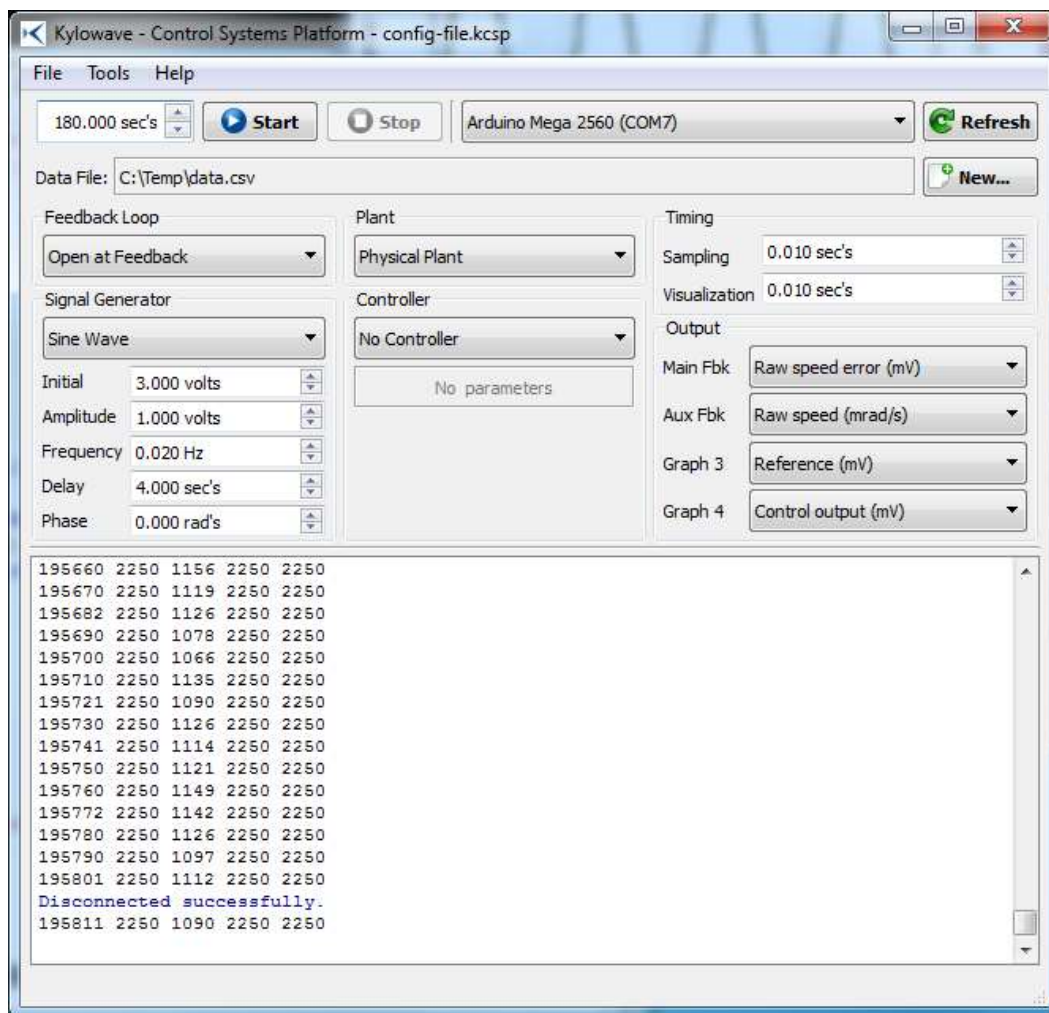

Figure II-3.3: K-CSP settings for the frequency response experiment
- L-II-3.4. Apply the settings shown in Fig. II-3.3 with the following exceptions: